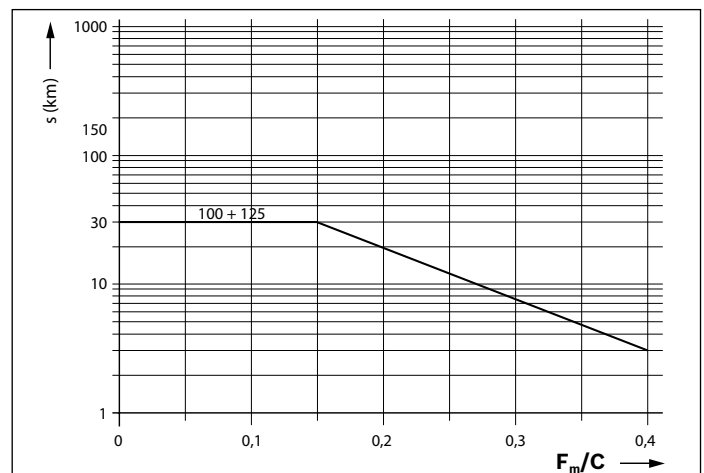

Fig. 8
- ▶ Once the relubrication interval according to figure 8 has been reached, relubricate the amount stated in table 10.
- ▶ Once the relubrication interval according to figure 8 has been reached, relubricate the amount stated in table 10 for each lube connection.